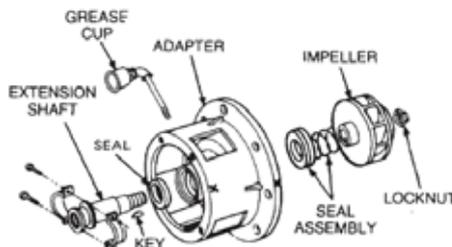

Figure 31 Adapter Assembly
- n.** Ease the impeller from the shaft by wedging evenly on each side until it clears the keyway (Figure 31).
- q.** Remove the Woodruff key from the shaft (Figure 31).